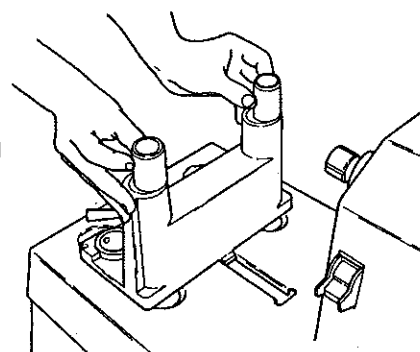

Fig.C-6
10. Twist the tubes, as in Fig.C-6, to either the left or right by the amount you judge is needed to bring the coupler in horizontal alignment with the drive shaft hub (31). When you move the tubes make sure you move them parallel to each other. It will make it easier when you remount the Jointer and you will be more accurate in your adjustment.